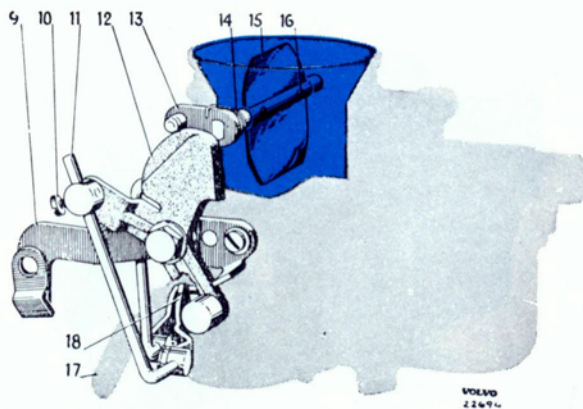

Fig. 11. Choke device and rapid idling.
In order to enrich the fuel/air mixture when starting a cold engine there is a choke device which is operated from a control on the instrument panel. When this control knob is pulled out for starting it influences the cam-formed lever (12, Fig. 11). The choke flap (15) is influenced by the spring (14) on the choke spindle so that it closes, resulting in a more powerful vacuum and thereby a greater fuel flow. When the engine has started and the degree of vacuum has increased, the choke can open to a certain extent since a closing force is obtained from a spring on the choke spindle. This avoids an excessively rich fuel mixture.